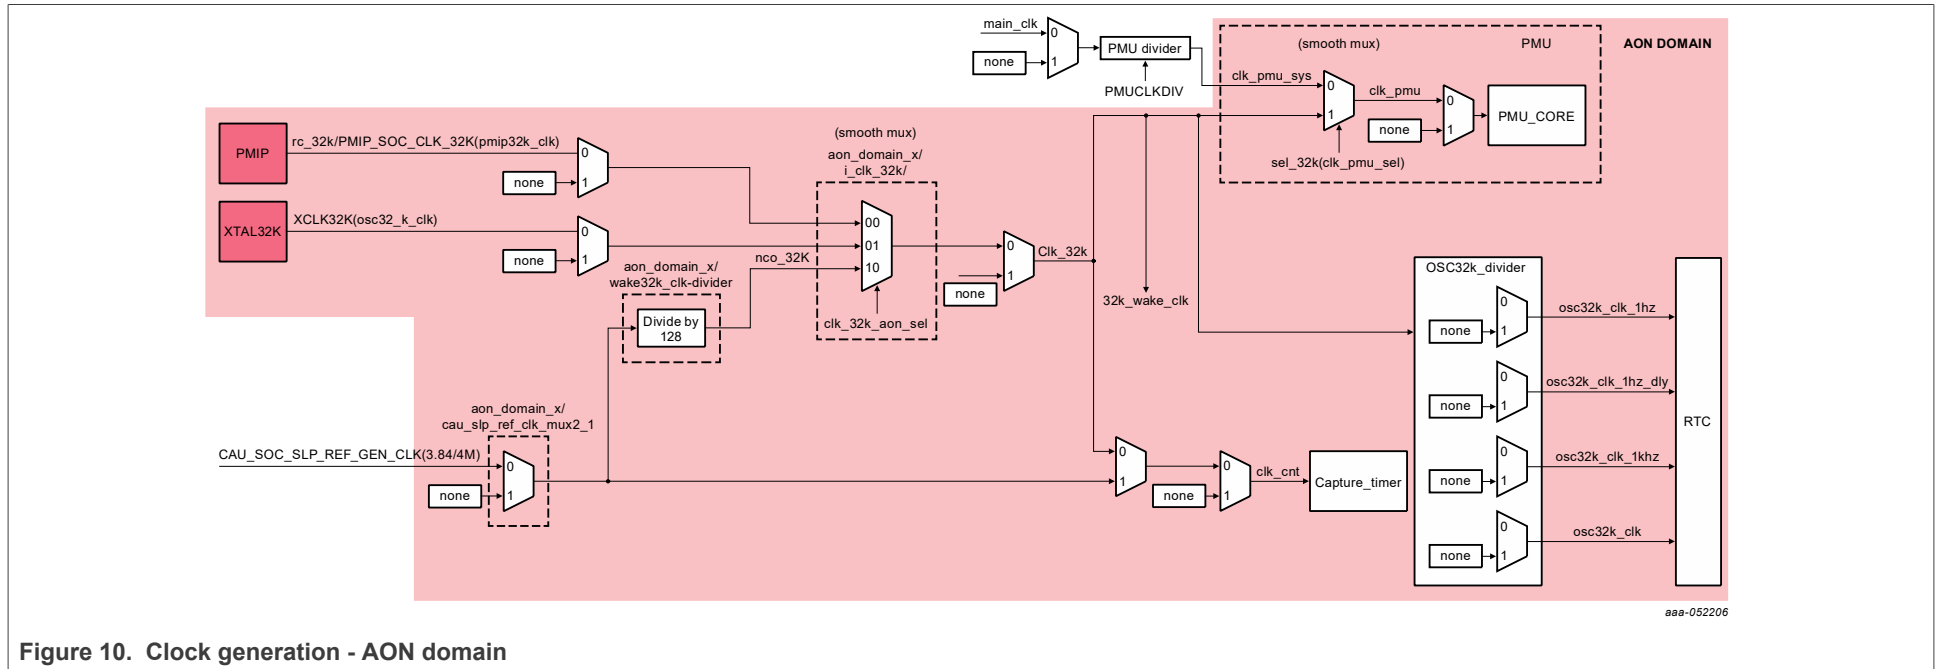

Figure 10. Clock generation - AON domain
The 32 kHz crystal oscillator has very high accuracy and can be selected as *clk\_32k* option after AON\_domain reset release, as illustrated in Figure 10.
- Figure 10 "Clock generation - AON domain"
- CAU\_SOC\_SLP\_REF\_GEN\_CLK(3.84/4M) is running (Figure 10). The DMA can use the 1M clock (3.84/4M divided by 4) to transfer data between some peripherals and the memory in PM2 mode.